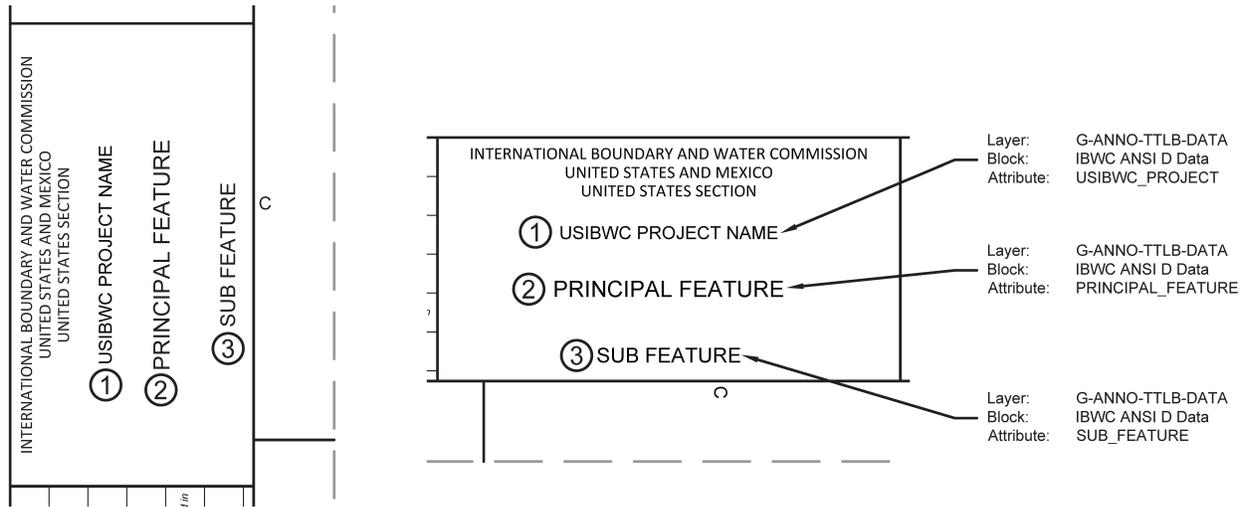

Figure 23-USIBWC Border: Title Block
4.3.A. Figure 23, Item 1 - USIBWC Full Project Name (1 line only)
4.3.B. Figure 23, Item 2 - Principal Feature (2 lines allowed)
4.3.C. Figure 23, Item 3 - Sub Feature (2 lines allowed)